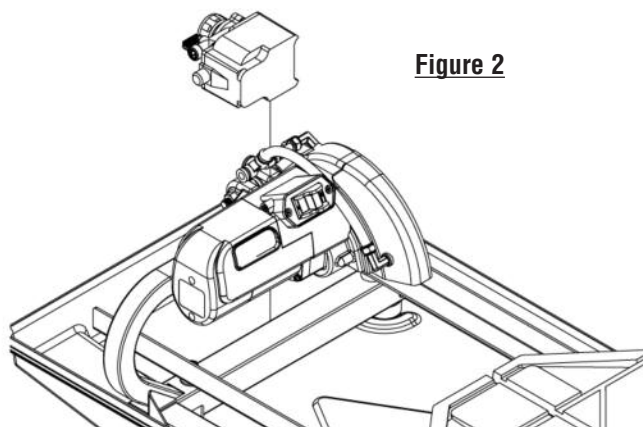

Figure 2
2. Place the pump within the water tray such that the water outlet is horizontal. *See Figure 2.*